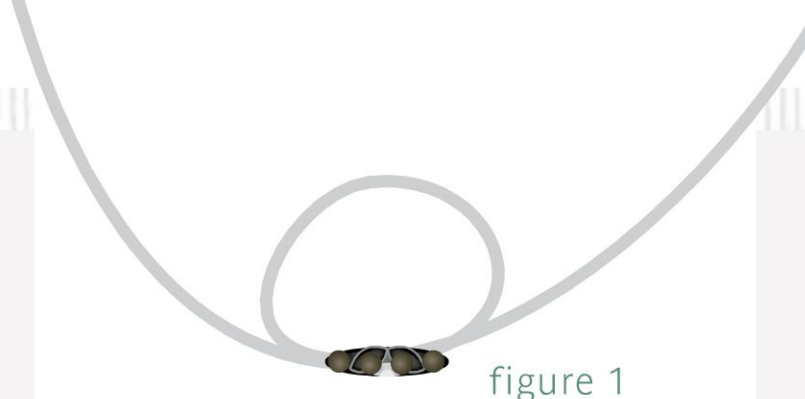

figure 1
- 2 String the other wire end through the second bead hole (Figure 1).